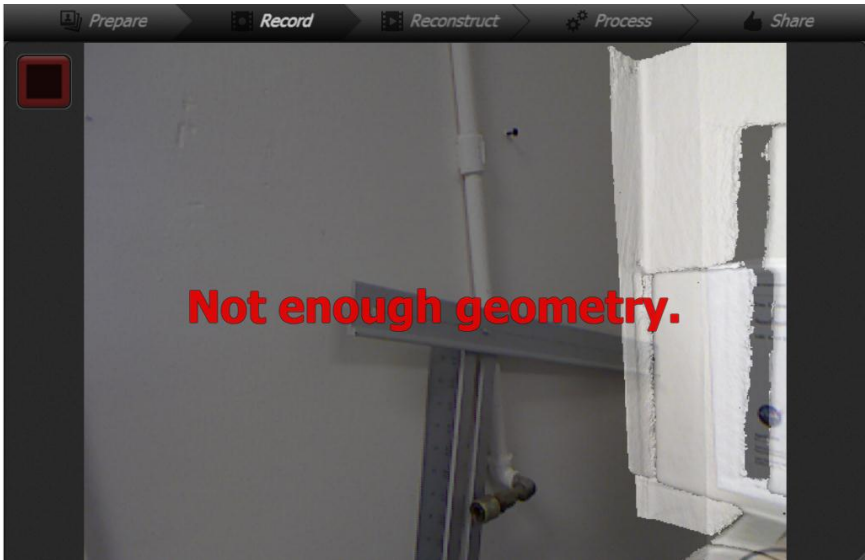

Figure 7: Not Enough Geometry
- iii. If **NOT ENOUGH GEOMETRY** text appears (FIG. 7), then rotate the object slower, or move the camera further from the object being scanned.